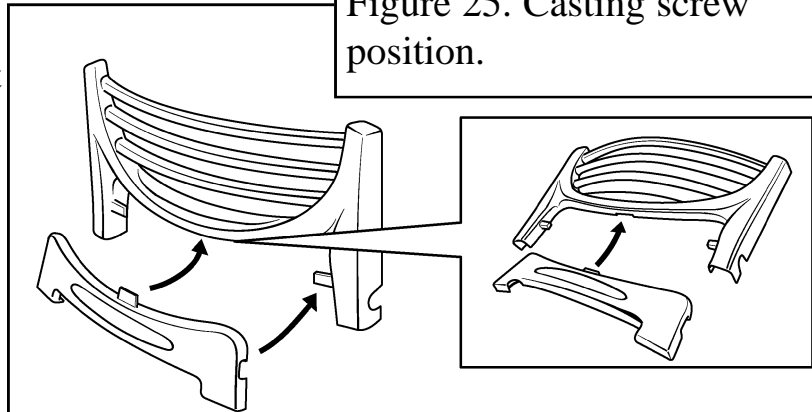

Figure 26. 'Ash pan' cover location
3. Fit the front cover casting below the front casting locating it as shown in figure 26.